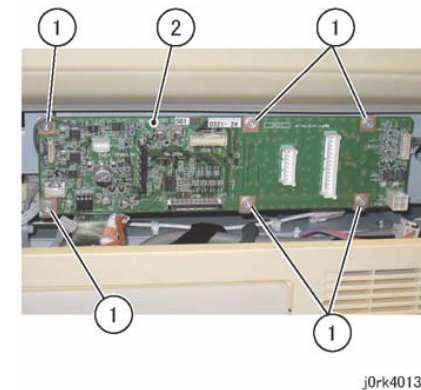

Figure 3 IIT PWB Removal
4. Remove the IIT PWB. (Figure 3)